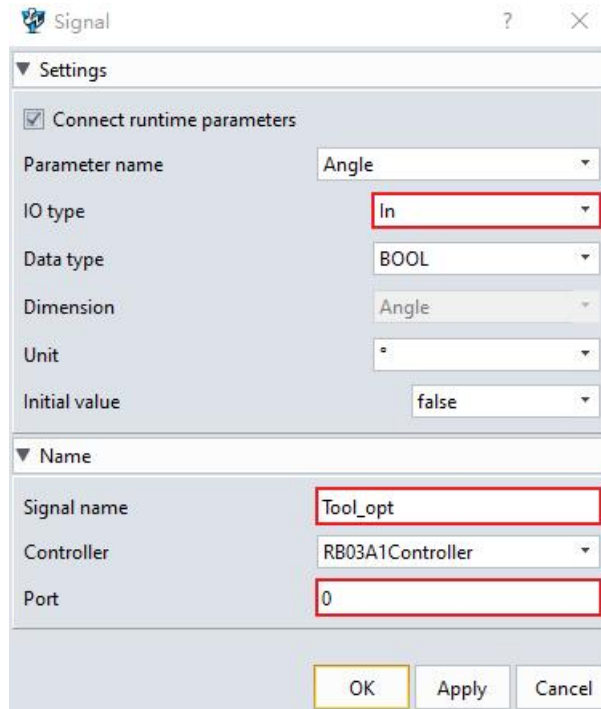

Figure 10-13: Signal
- Click “OK” button to confirm. (Figure 10-13)